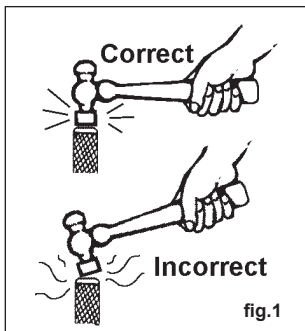

fig.1
- ✓ Strike the driver squarely on the head - **DO NOT** hit the tool off centre or at an angle (fig.1).